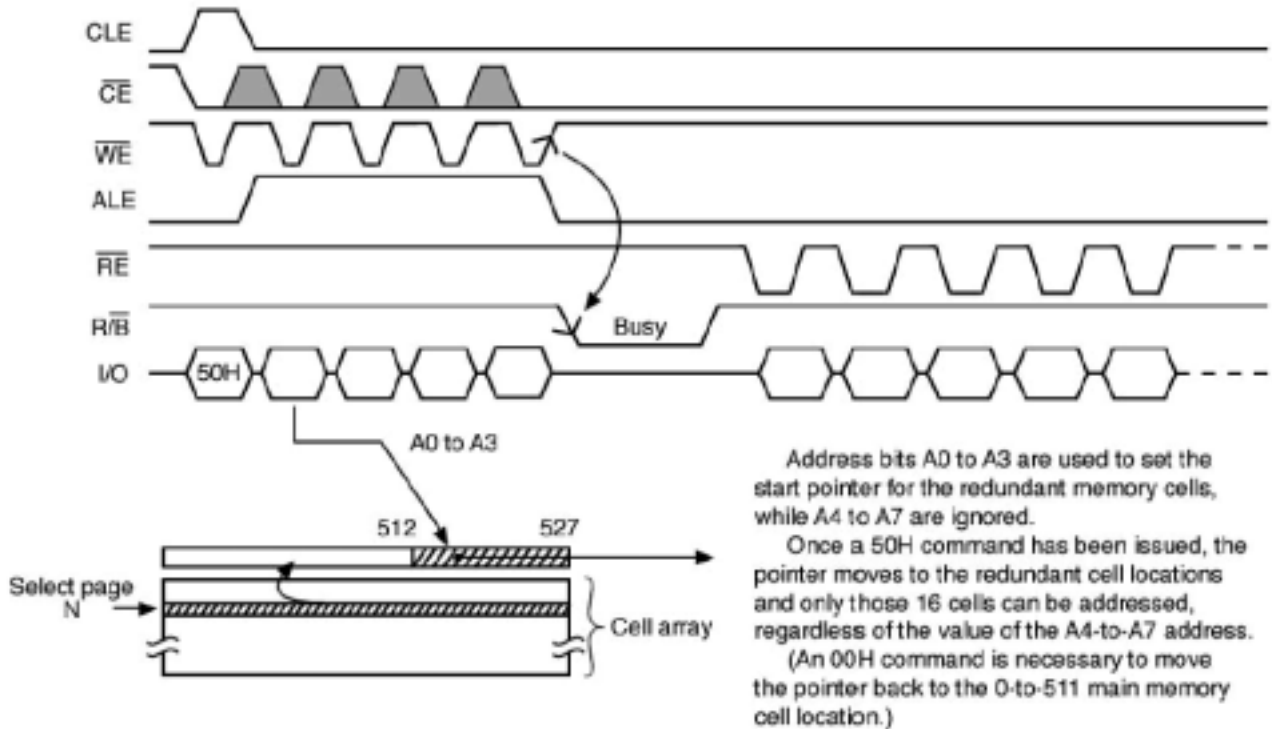

Figure 8. NAND Read Mode (3) Timing
2.6.3 Read Mode (3) 50H
Read mode (3) has the same timing as Read modes (1) and (2) but it is used to access information in the extra 16-byte redundancy area of the page. The start pointer is therefore set to a value between byte 512 and byte 527. Refer to Figure 8 below for timing details and the block diagram.